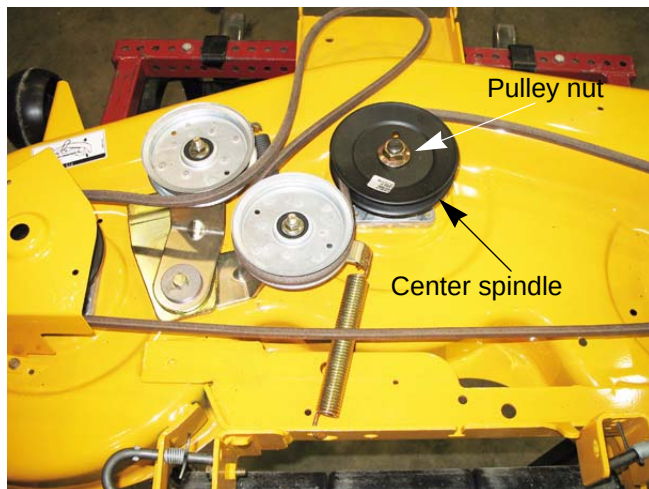

Figure 8.5
3. The center spindle pulley can be removed at this point using an impact wrench with a 15/16" socket to remove the pulley nut. See Figure 8.5.